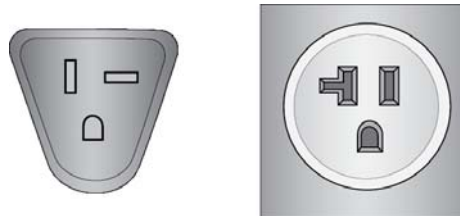

Figure 15. NEMA 5-20P Plug and Receptacle
- ❑ The power cords included with SBxPWRSYS2 Power Supplies for 100-125 VAC installations have 20 Amp, 125 V NEMA 5-20P plugs that require NEMA 5-20R receptacles. Refer to Figure 15.